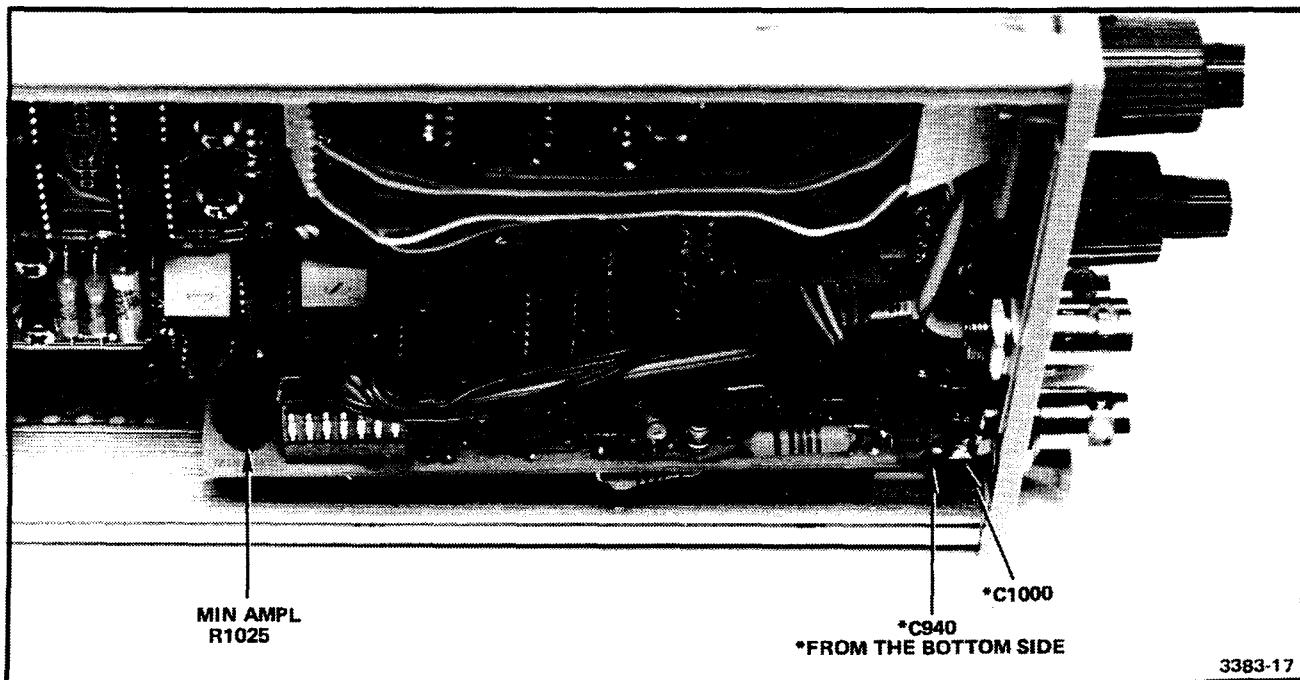

Fig. 4-7. Adjustment locations for the A3 Fast Rise Output circuit board.
d. Adjust—Min Ampli (R1025) so the larger of the two outputs is just under 60 mV p-p. Refer to Fig. 4-7.